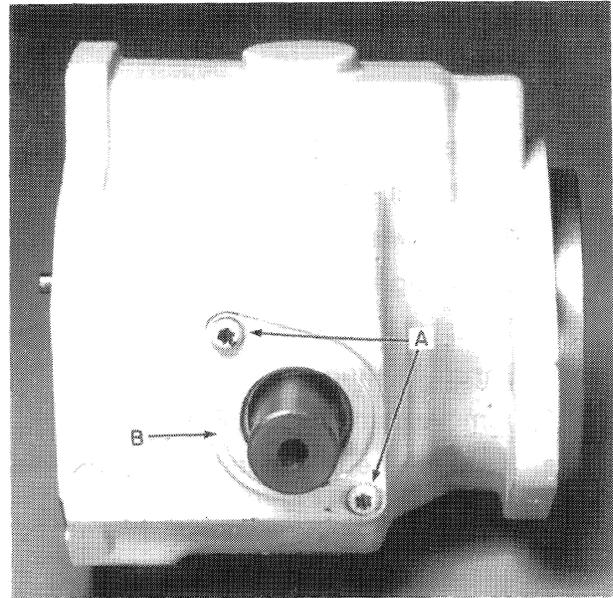

FIGURE 4-12
c. Remove the torx head screws, A, Figure 4-12, and cover plate, B, from the pintle shaft side.